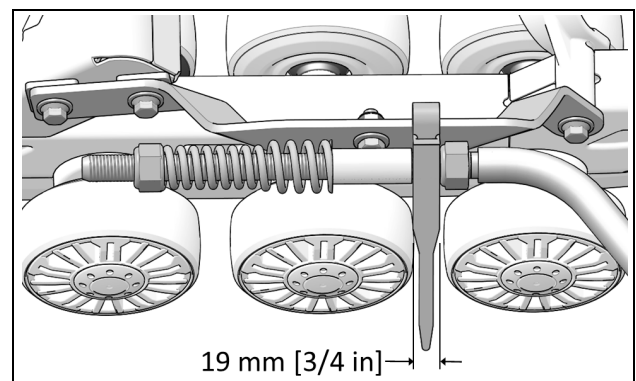

Figure 14
- **IMPORTANT:** Double-check the 19 mm minimum distance between nut and stabilizing arm guide. Re-adjust as needed. See Figure 14.